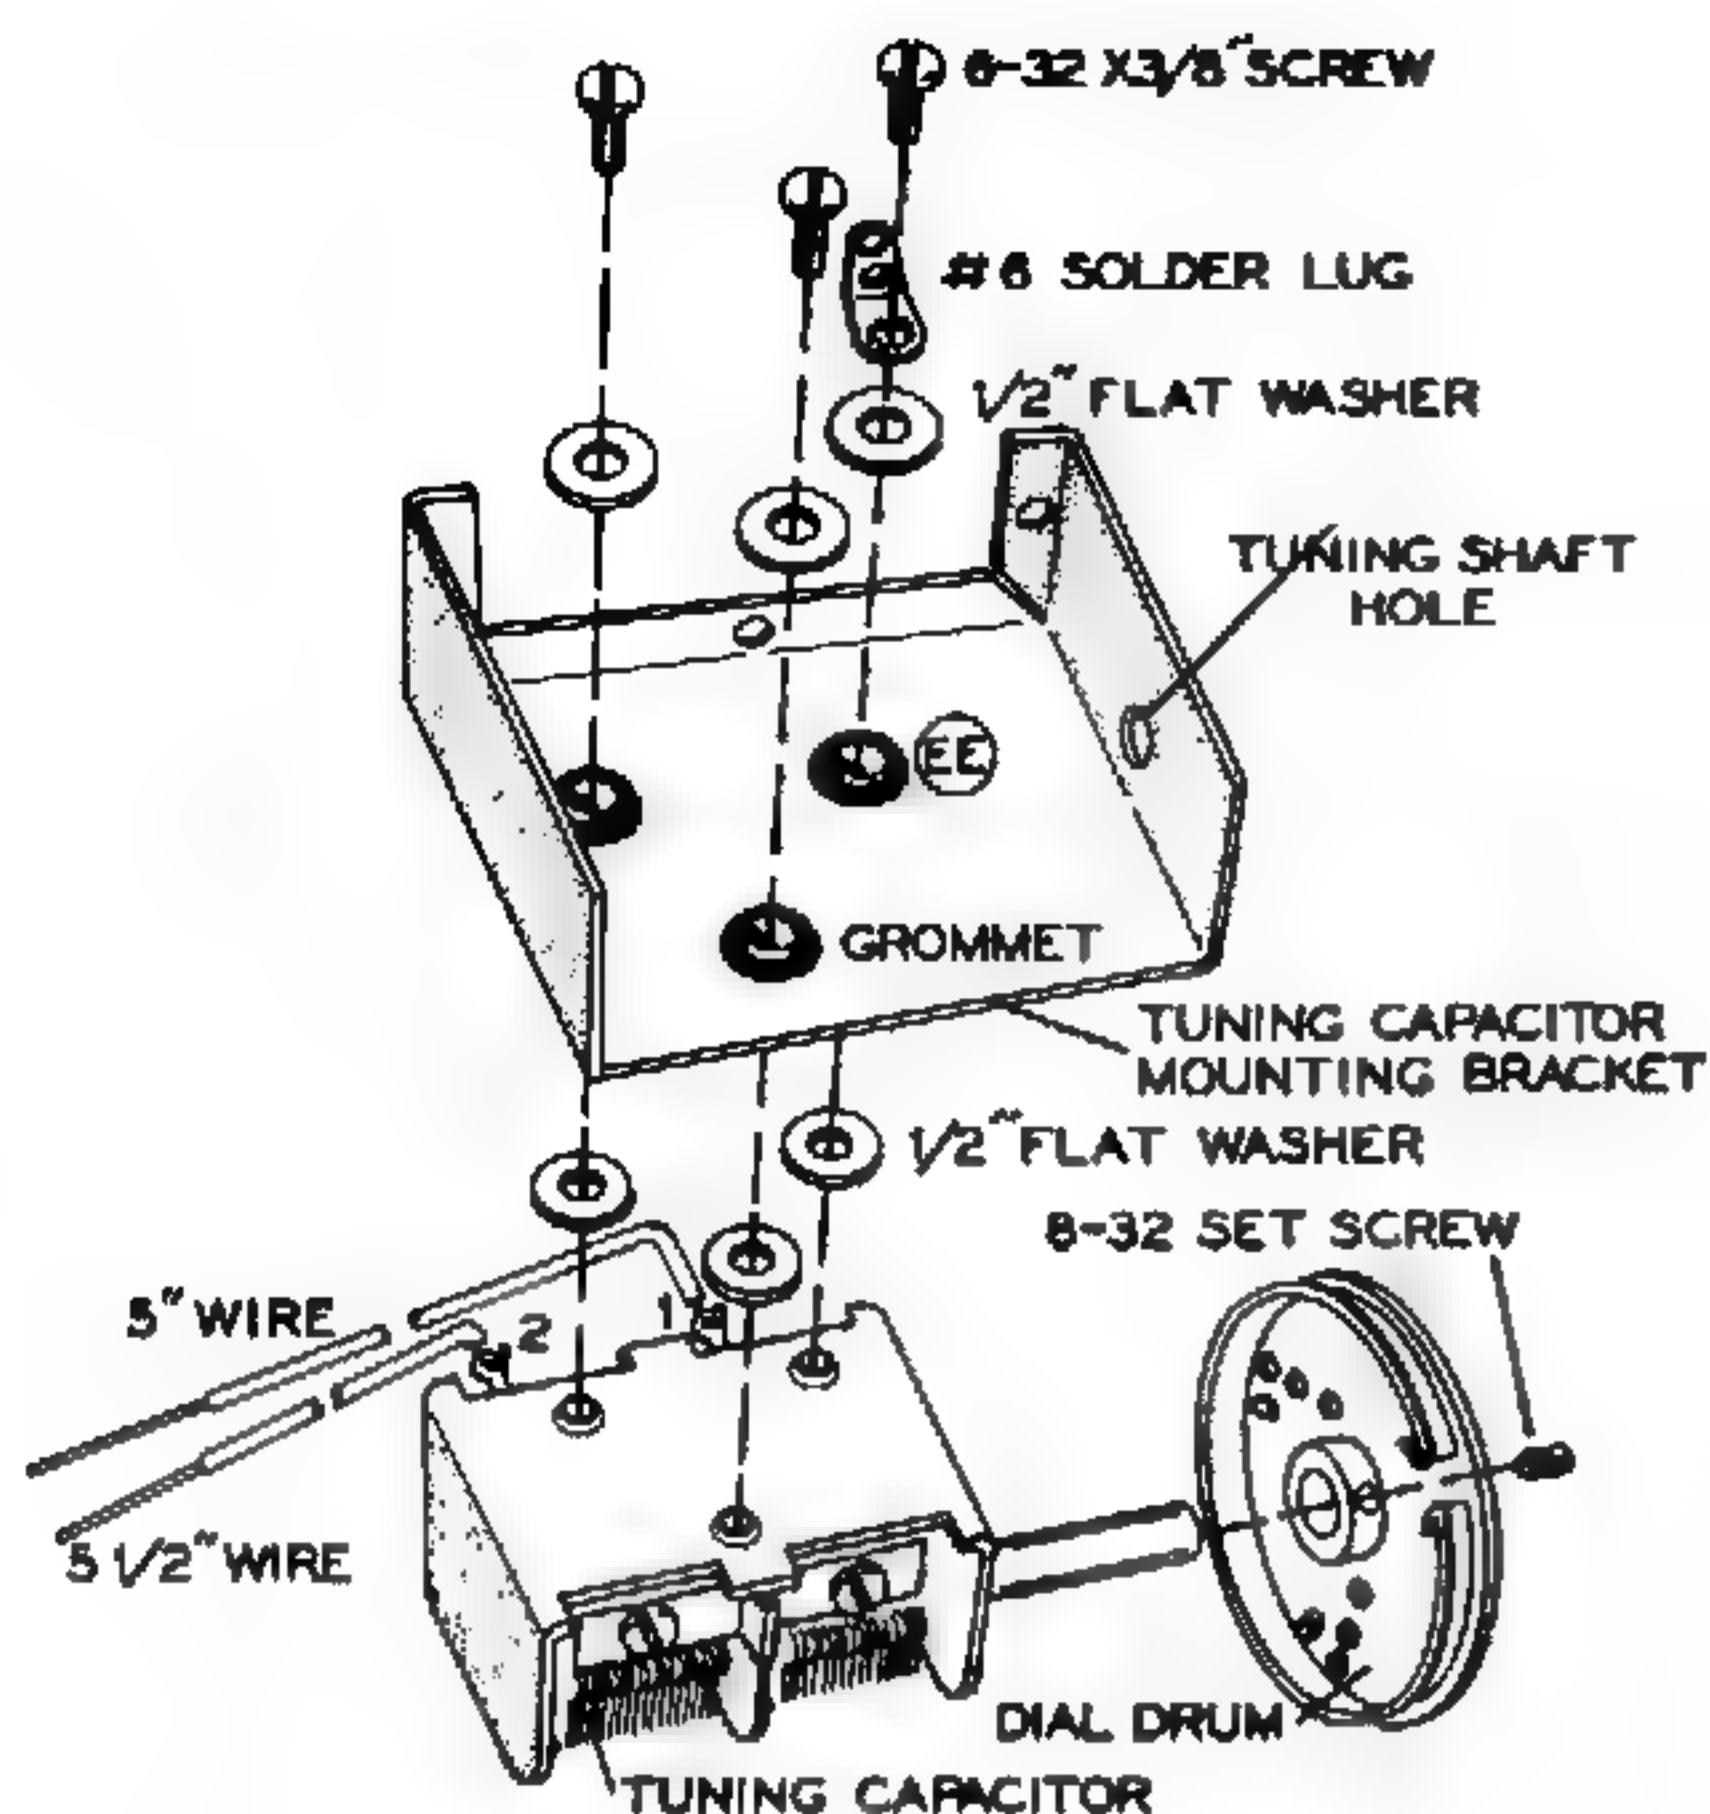

Figure 18
- (✓) Locate the TUNING capacitor mounting bracket and insert three 3/16" rubber grommets in the three large holes on the bracket, as shown in Figure 18.
- (✓) Make sure the plates of the TUNING capacitor are fully meshed and position it, with the mounting holes up, on your working area. See Figure 18.
- ( ) Carefully position the TUNING capacitor mounting bracket on the MAIN TUNING capacitor as shown in Figure 18, and secure with three 6-32 x 3/8" screws, three 1/2" flat washers, and a #6 solder lug. The solder lug goes under the mounting screw at EE.